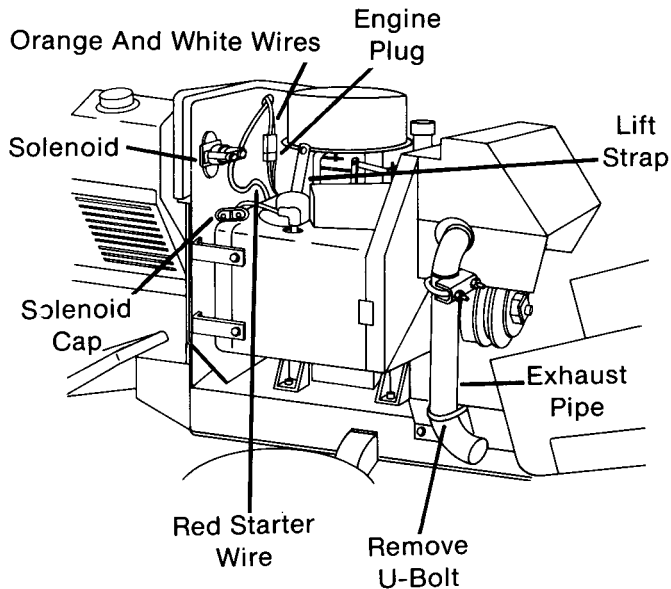

FIG. 3
- b. Orange and white wires at engine plug at upper rear corner of engine. (Fig. 3)
- c. Remove cap on solenoid and disconnect red starter wire at solenoid. (Fig. 3)
- G. Remove two nuts and lockwashers on U-bolt securing exhaust pipe to engine mounting bracket. (Fig. 3)
- N. Using lift strap at top of engine, lift engine up and off of tractor. (Fig. 3) Guide universal joint out of screen while engine is being removed.
G. Remove two nuts and lockwashers on U-bolt securing exhaust pipe to engine mounting bracket. (Fig. 3)